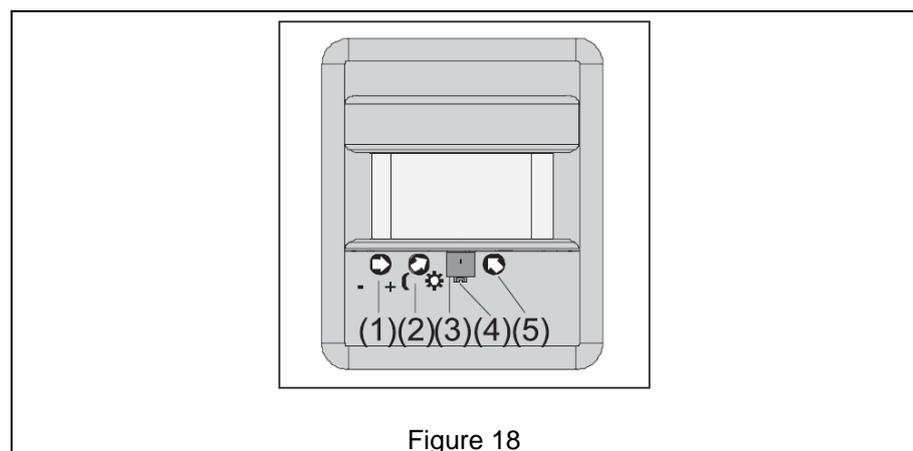

Figure 18
For special operation, the automatic switch can also be set to the push-button mode. The push-button mode can be used, for instance, to activate a doorbell. For this mode, potentiometer (5) must be set to the \square symbol (Fig.18).